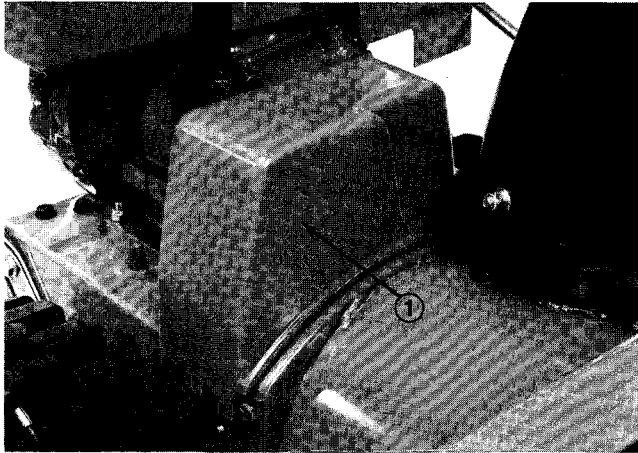

Figure 30
2. Remove two thread forming screws holding belt cover in place, and set belt cover aside (Fig. 30).